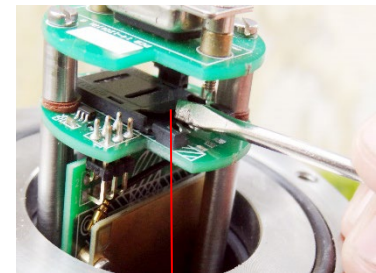

Figure 8-22: SIM slot opening
- Lock SIM slot by pushing from the opposite side keeping the SIM pushed down in position, refer to figure 8-22.